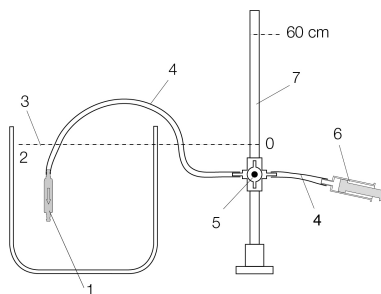

Fig. 7: Test set-up
- Set up the manometer and water bath in such a way that the zero point on the manometer lines up with the water level in the water bath, see fig. 7.
- Connect the syringe to the pressure gauge and the silicone tube, see fig. 7; use a tube adapter if necessary.